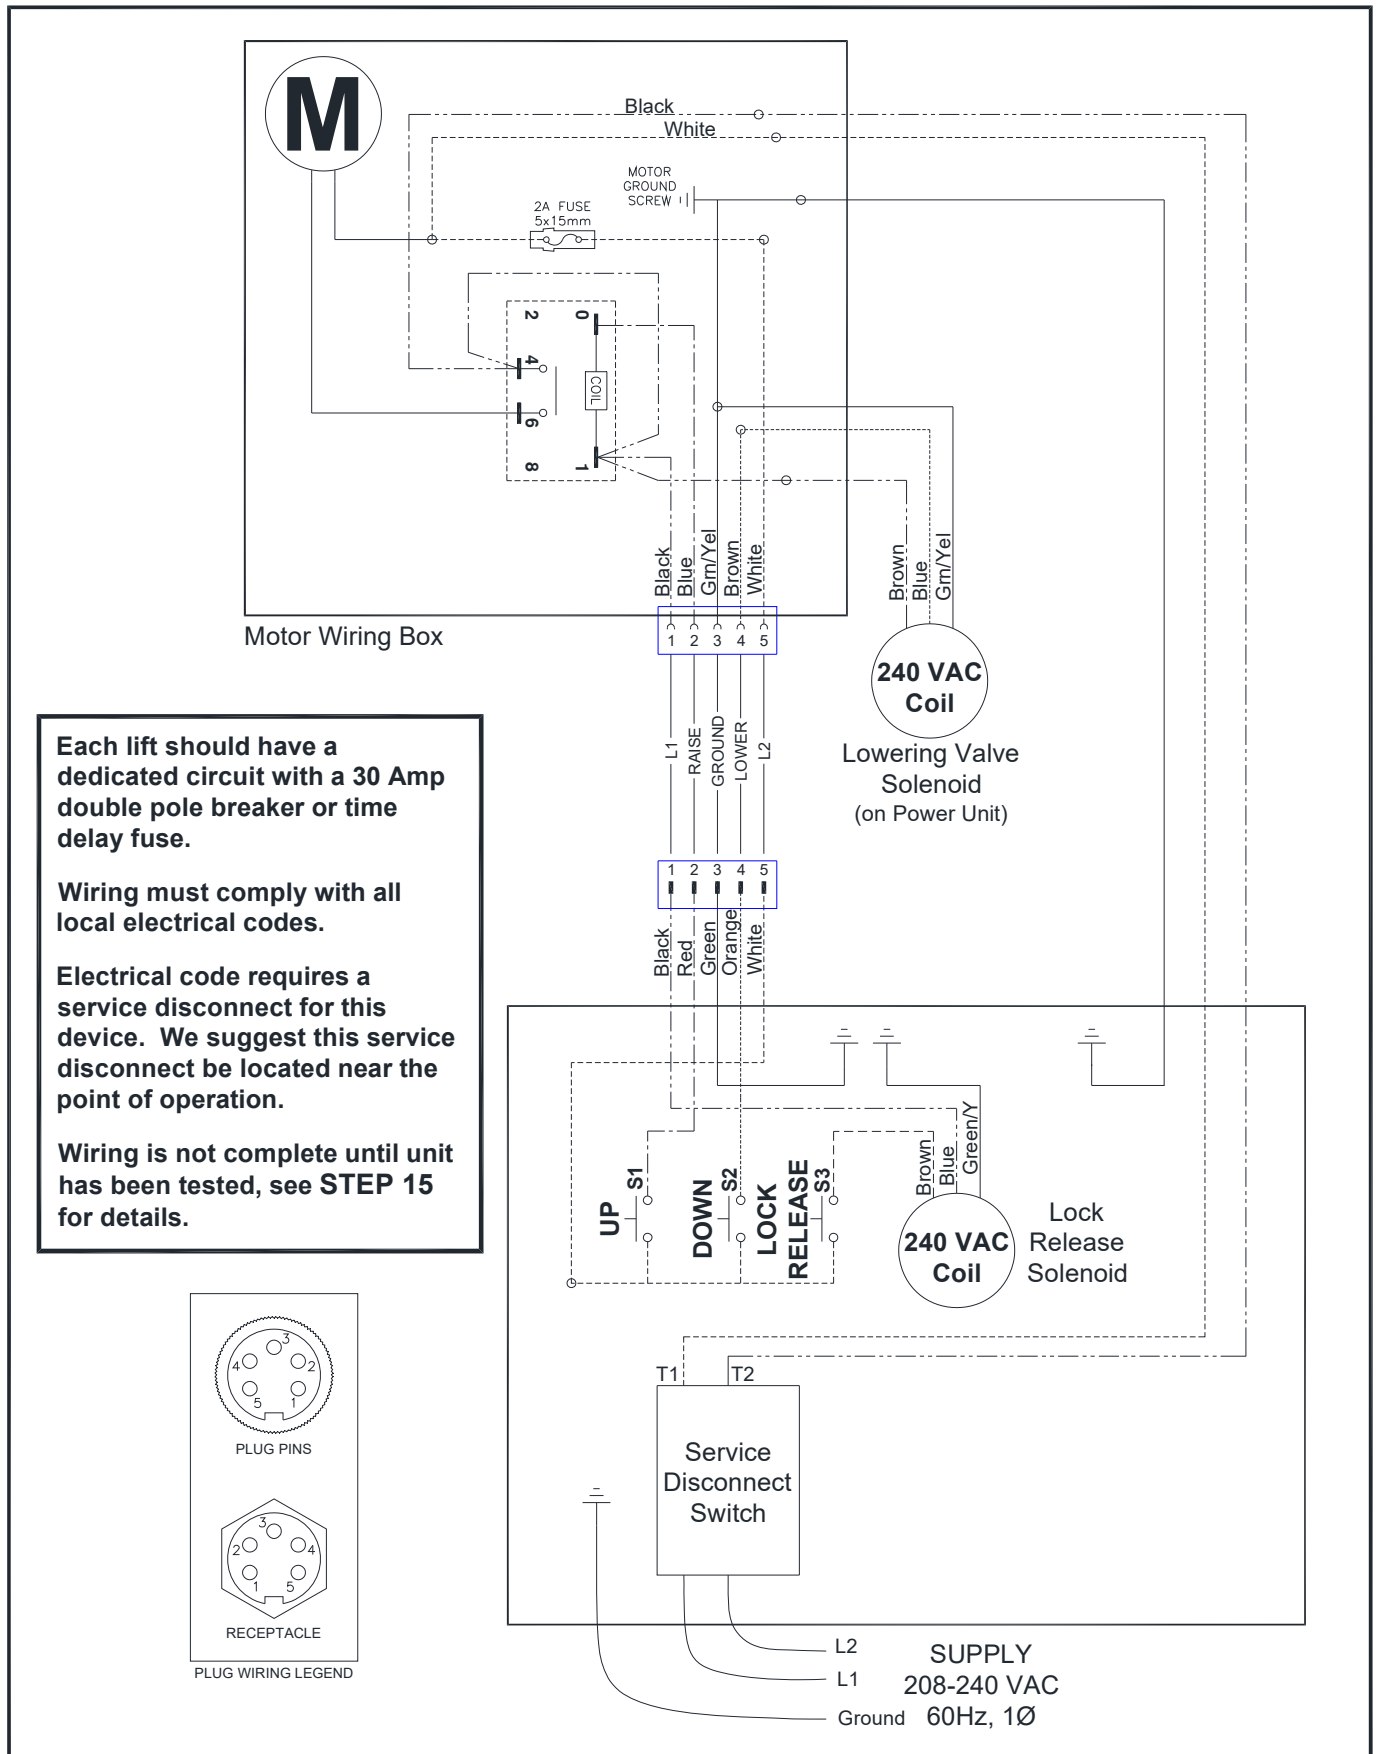

Fig. 11 – Electrical Wiring Diagram
- 9) Connect Power Unit to suitable electrical source as shown in **Fig. 11**.